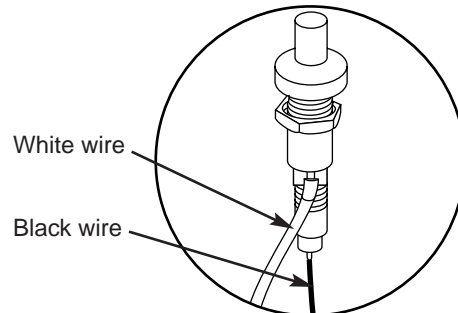

Figure 22
- Check that both the white and black ignition wires are attached properly. Figure 22.